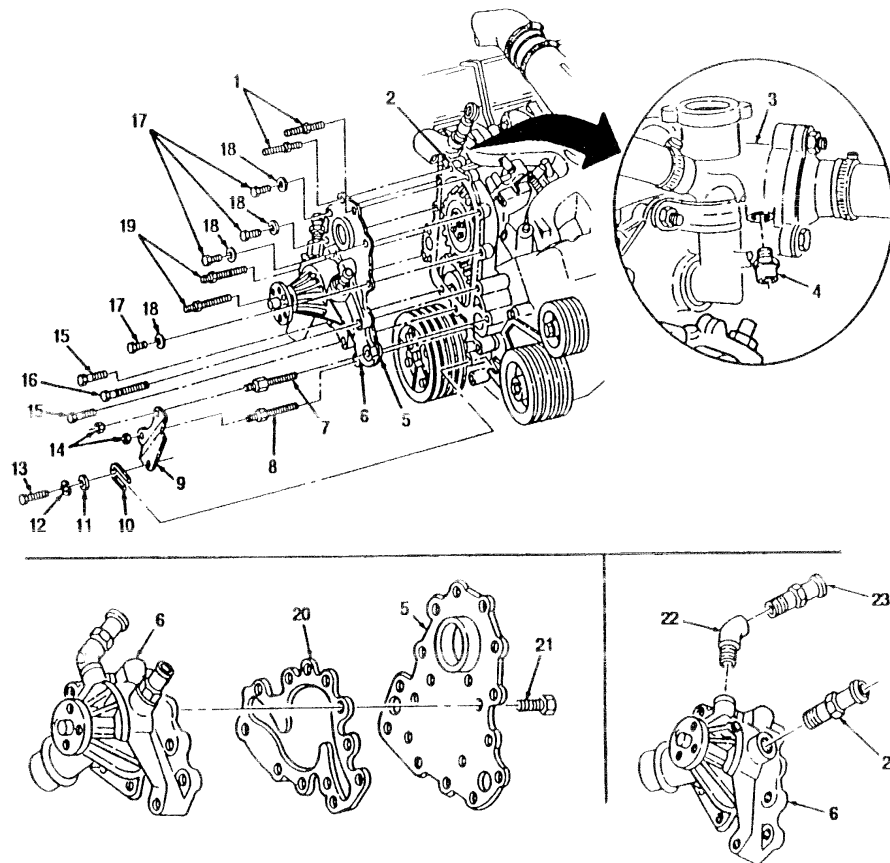

FIGURE 3-13
17. Remove cap screw (13), lock washer (12), washer (11), and power steering pump bracket (10) from support bracket (9). Discard lock washer (12). (see figure 3-13)
18. Remove two nuts (14) and support bracket (9) from water pump (6).
19. Remove bypass nipple (4) from water crossover (3).
20. Remove two studs (1) and (19), studs (8) and (7), four cap screws (17), washers (18), two cap screws (15), cap screw (16), water pump (6), and adapter plate (5) from timing gear cover (2).
21. Remove seven cap screws (21), adapter plate (5), and gasket (20) from water pump (6). Discard gasket(20).
22. Clean remaining gasket material and sealing compound from sealing surfaces on adapter plate (5), water pump (6), and timing gear cover (2).
23. Remove heater hose nipple (23), elbow (22), and bypass hose adapter (24) from water pump (6).